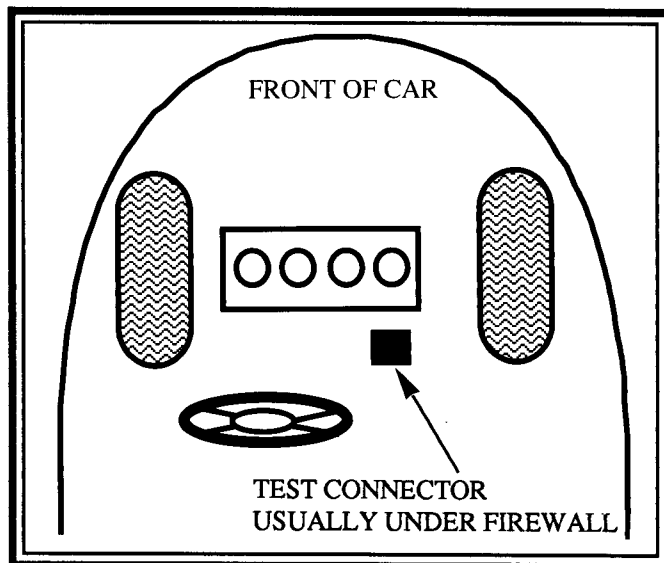

Fig. 11. With Ford cars, test connector is usually in engine compartment near the firewall.
2. Plug the Ford adapter into the car's diagnostic connector, **Fig. 11**. The diagnostic connector is usually in the engine compartment on the firewall. **Fig. 12** shows the Ford adapter. On EEC-IV systems, make sure the small pigtail connector and the main connector are installed in Ford end of the adaptor.